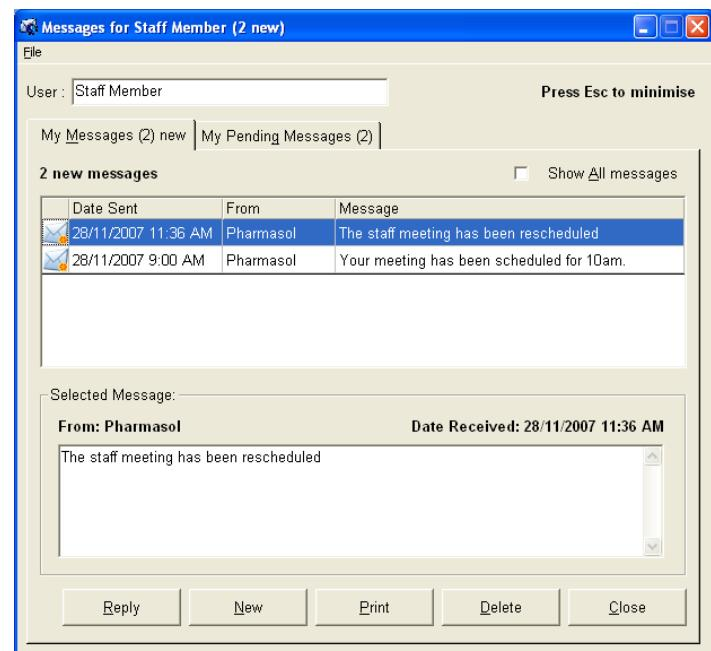

Figure 241
4. Selecting Diary will display the 'Messages' window (as shown in Figure 241).